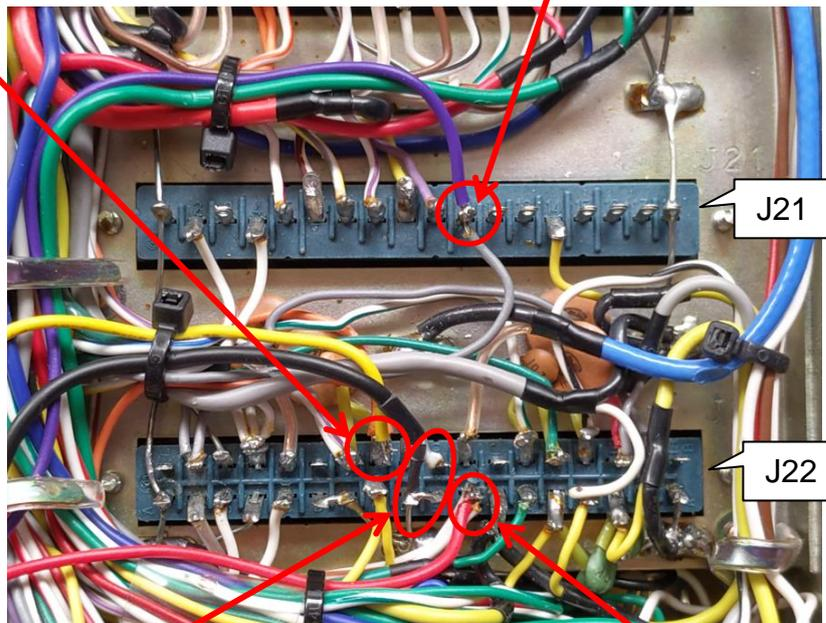

Figure 15
- Solder the prepared cables of the display module to the connector strips as shown in Figure 15.
- Solder the prepared cables of the display module according to Figure 15 to the connector strip J22 (MIC AMP UNIT).